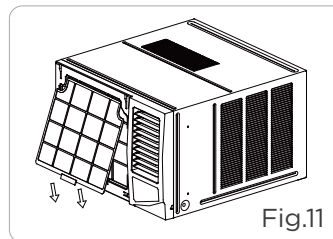

Fig.11
1. Insert the air filter into the frame's slot from upside to underside. (See Fig. 11)